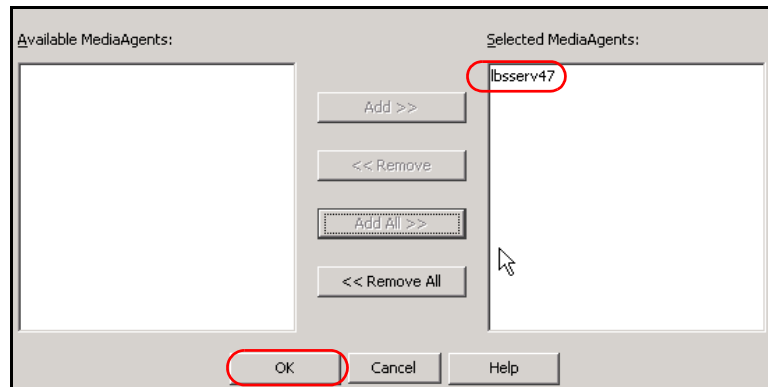

Figure 19-3 Select the MediaAgent
3. Under the Available MediaAgents pane, double-click the server name. This action moves the server to the right pane. Click **OK** (Figure 19-3).